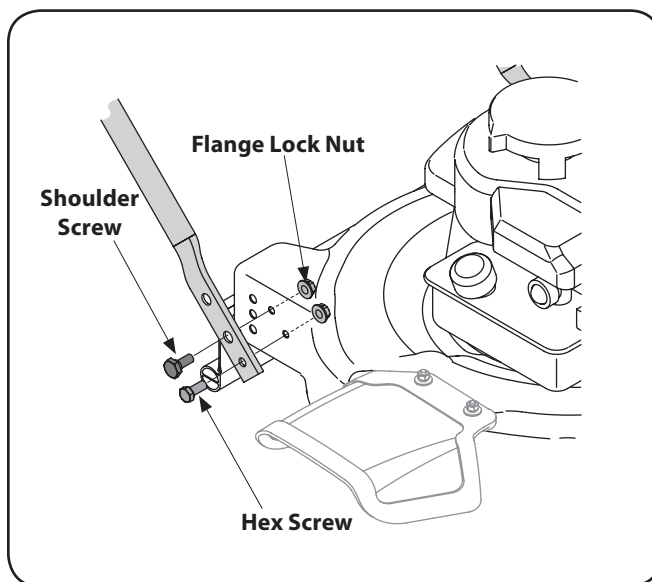

Figure 3-2
2. Place the lower handle over the deck aligning the lower two holes in the handle with the corresponding holes on the deck. See Figure 3-2.
3. Attach the lower handle to the deck with shoulder screws in the upper hole and hex screws in the lower hole as shown in Figure 3-2, secure both with hex flange locknuts. Tighten securely.